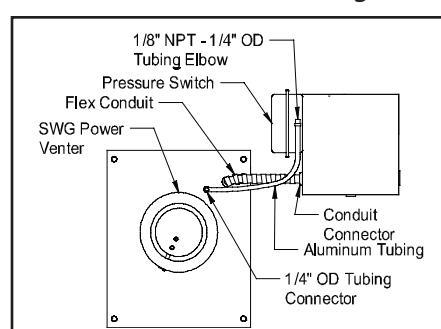

Figure 11
1. Attach the $\frac{1}{4}$ " tubing connector to the pressure tube on the SWG Venter. (See Figure 11)